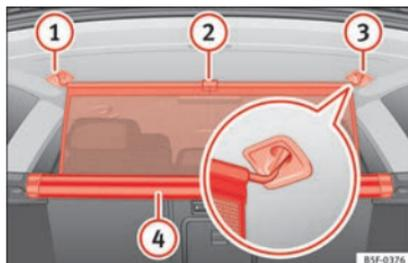

Fig. 124 In the luggage compartment: pulling out and securing the net partition.
- Pull up handle »» Fig. 124 (2) to remove the net from the casing (4).
- Hook in the net partition on the right side (3) (magnified image).
- Hook in the net partition in the left side housing (1) pulling the rod.